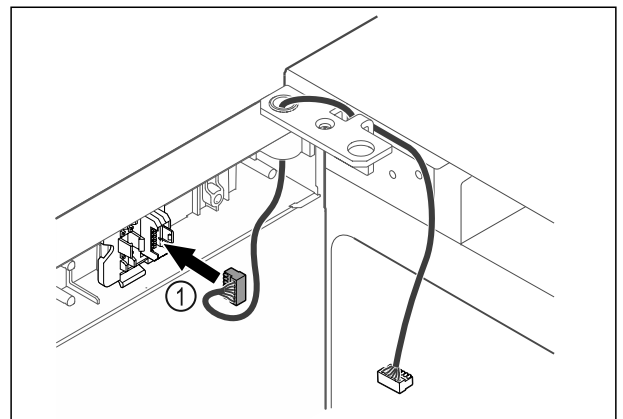

Fig. 37
- ▶ Put the plug *Fig. 37 (1)* in the plug holder.